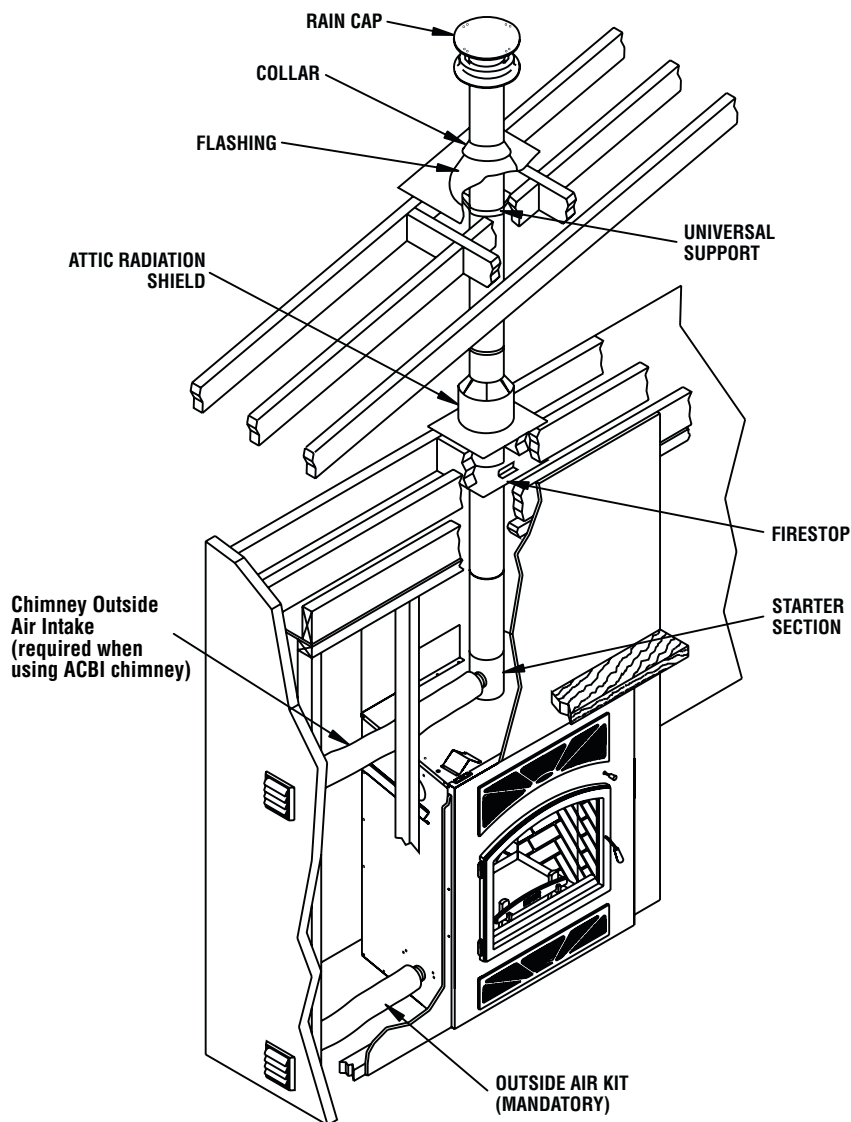
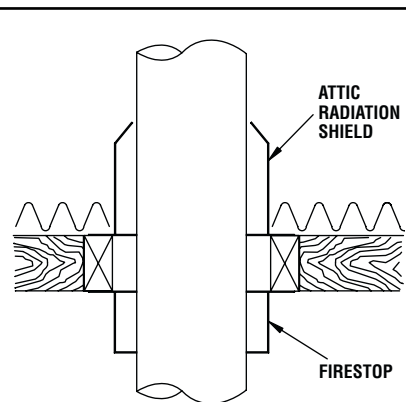

Figure 22
Figure 24
2. From below, install a firestop in each ceiling/floor separation through which the chimney will pass. At the attic level, install an attic radiation shield from above, (see Figure 24). S2100+ and ASHT+: Place the first chimney length on the fireplace, to lock turn 1/4 of a turn clockwise. ACBI: A starter section must be installed before installing the first chimney length (see Figure 22).